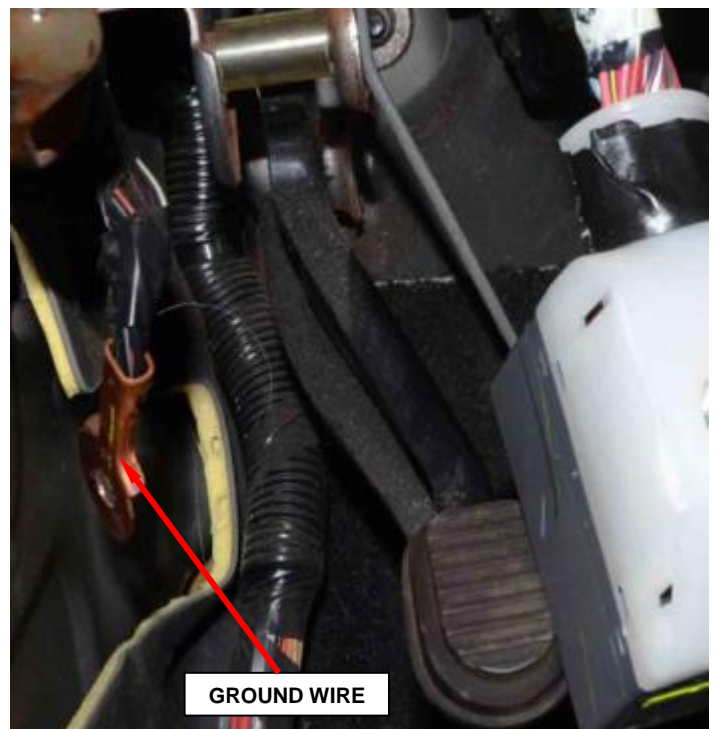

Figure 79 – Bolt and Ground Location
20. Remove the bolt and the ground from the left A-pillar (Figure 79).